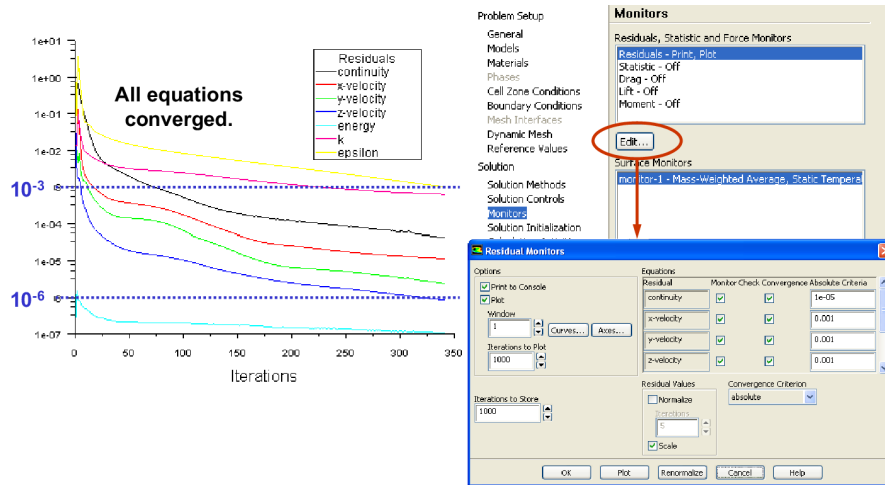

Figure 14: Example of residual monitoring plot for a non-isothermal turbulent flow computation.
During the simulation, Fluent allows you to monitor the evolution of the residual R^k in a graphic window as in Fig. 14. The monitoring parameters of each flow equations are set in the **Monitors** task page. By default, Fluent defines the **Absolute Criteria** of (3) as $\epsilon = 10^{-3}$ for all equations¹⁹. Often in practical applications, this condition is not sufficiently restrictive to give an accurate solution. To change this criterion, click on **Edit...** in the **Residuals** panel (see Fig. 14).